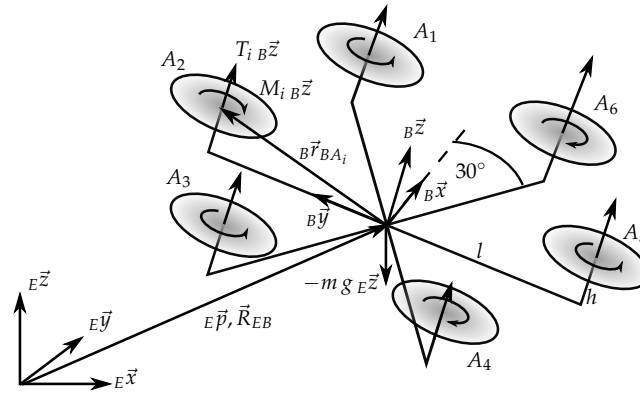

Figure 1: Hexacopter model.
In this exercise, the full dynamic model of a hexacopter has to be derived assuming that the vehicle is a rigid body. The dynamic model has to be represented as a set of ordinary differential equations. The hexacopter structure is shown in Figure 1 including forces and torques acting on the vehicle and inertial and body frames.
- From Figure 1 write the linear mapping between the square of rotors angular velocity $\omega_{p,i}^2$ and the total forces and torques acting on the platform. i.e. find the so called allocation matrix \mathbf{A} in the following relation: